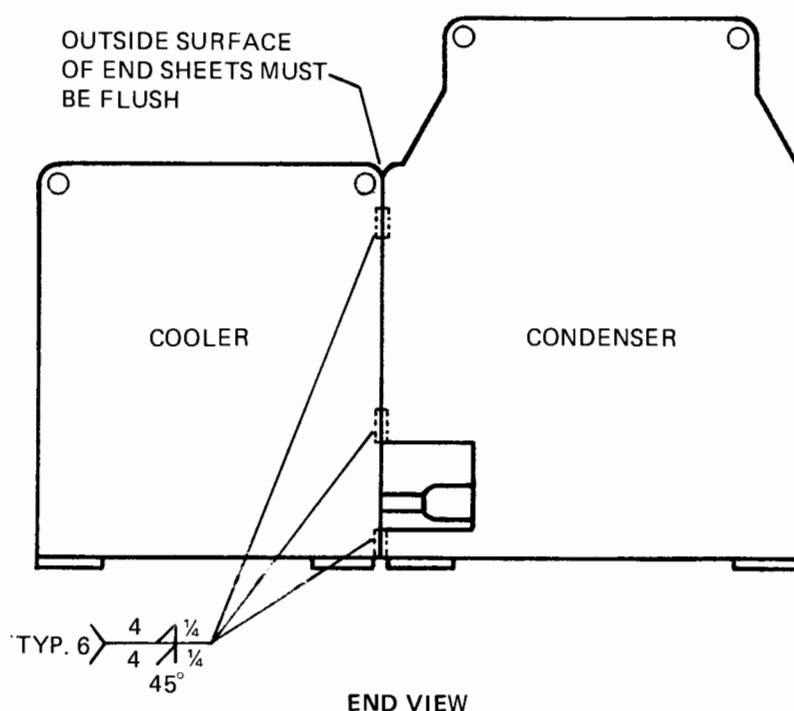

FIG. 2 -- FORM 7 SHIPMENT
FORM 7 SHIPMENT (See Fig. 2)
2. Weld tube sheets together. (See Fig. 2 for welding symbol.)